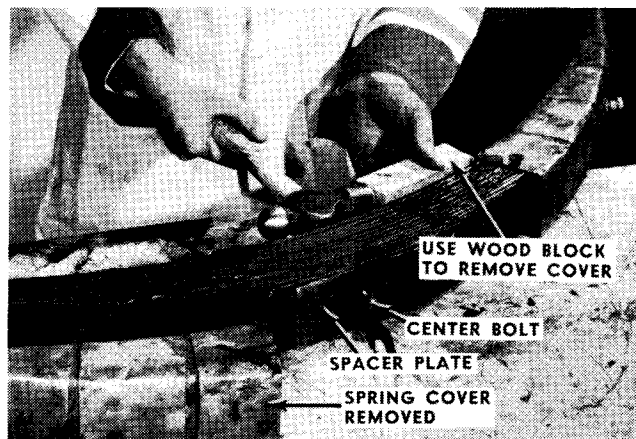

FIG. 1
2. Remove spring covers. See Fig. 1.